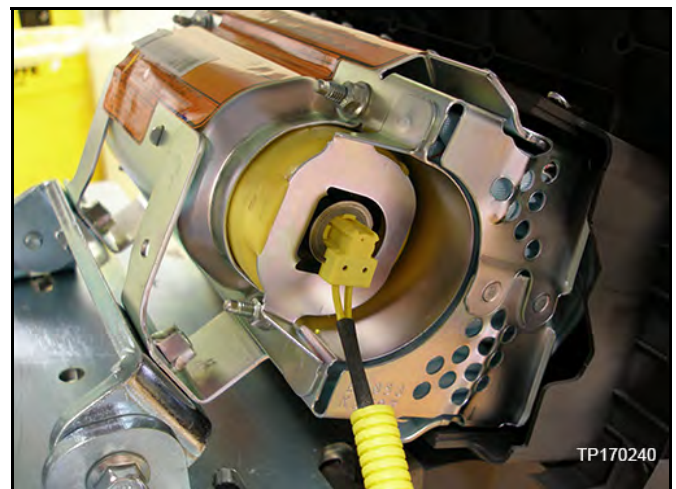

Figure 26
- Refer to Figures 26, 27, and 28.